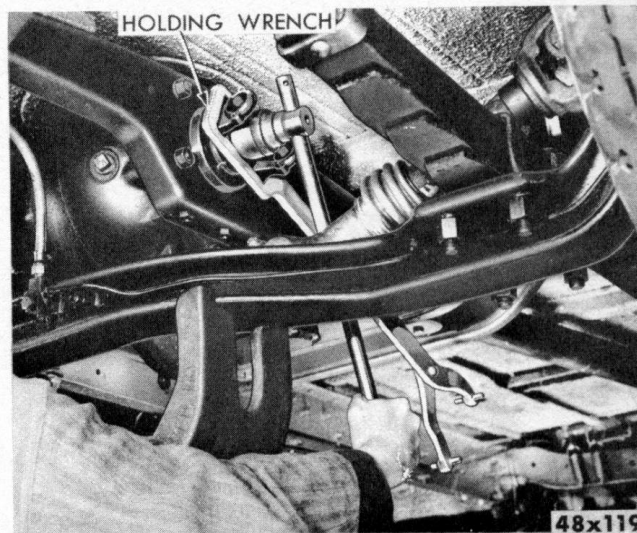

Fig. 96—Removing Differential Drive Shaft Yoke Nut
- (1) Remove differential drive shaft yoke nut and yoke (Fig. 96).
- (2) Remove differential drive shaft bearing retainer.
- (3) Remove differential drive shafts (no tool is necessary). Sometimes the shafts will bind. If such is the case, loosen carrier retainer nuts and remove the shafts.
- (4) Remove the two support arms.
- (5) Remove carrier retainer nuts.
- (6) Lift carrier out of housing.